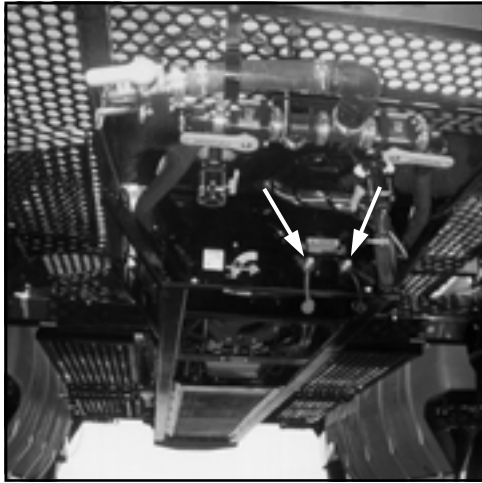

FIG 8.36
**CHARGING** - To ease charging of the battery, there is a set of auxiliary battery charging posts on the rear of the sprayer's mainframe (fig. 8.36). Connect your charging cables to them just as you would to the battery, positive cable to positive terminal, and negative cable to negative terminal. Keep these terminals clean and their caps in place when not in use.